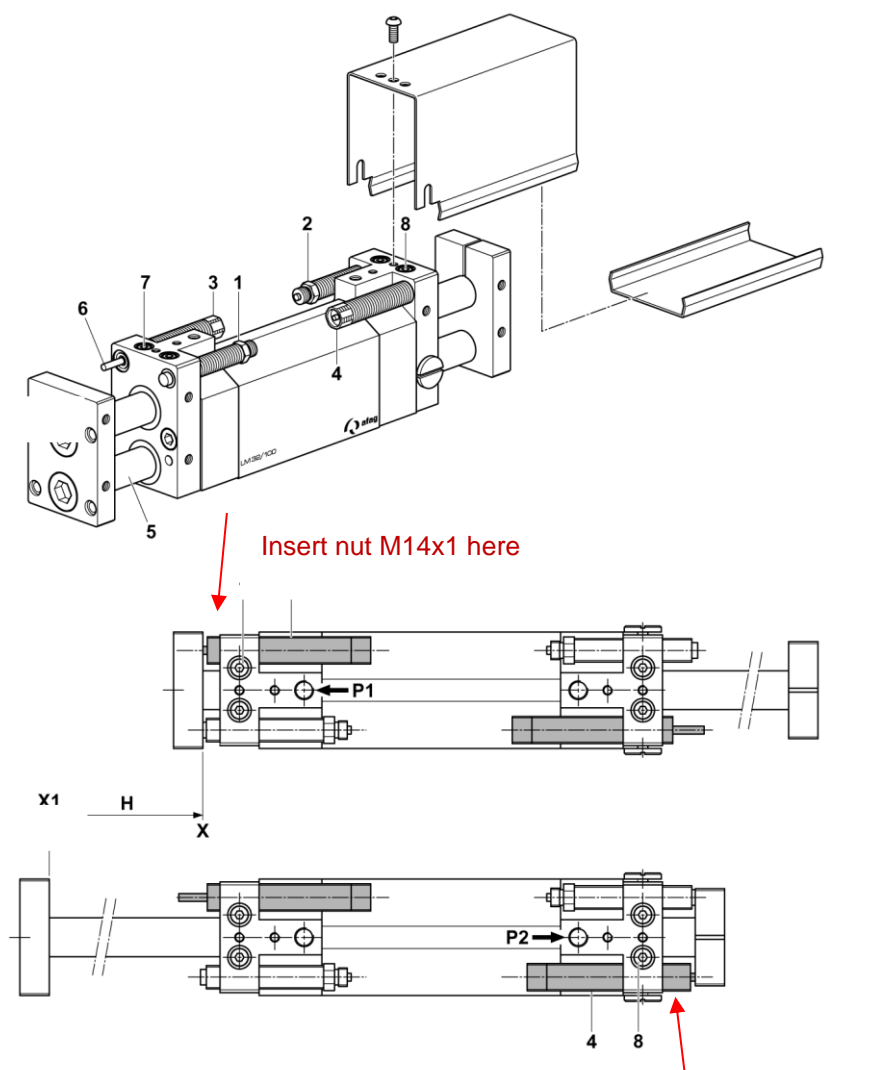

Fig. 21 Adjustment of the shock absorber
1. Adjust stroke (H) as described above (via stop screws 10 and 12).
2. Compressed air at (P1). The slide (Fig. 21, 5) of the LM moves to the right until it is limited by the stop screw (Fig. 21, 1) in position (X).
3. Screw in the shock absorber (Fig. 21, 3) clockwise [the shock absorber pin (Fig. 21, 6) is pressed into the shock absorber] until the slide (Fig. 21, 5) starts to move.
4. Now unscrew the shock absorber (Fig. 21, 3) two turns anticlockwise and secure it with the stud screw (Fig. 21, 7)*. (One turn = 1mm).
5. Compressed air at (P2). The slide (Fig. 21, 5) of the LM moves to the left until it is limited by the stop screw (Fig. 21, 2) in position (X1).
6. Repeat the same procedure as under point 3-4 with shock absorber (Fig. 21, 4). Secure shock absorber with nut (Fig. 21, 8).